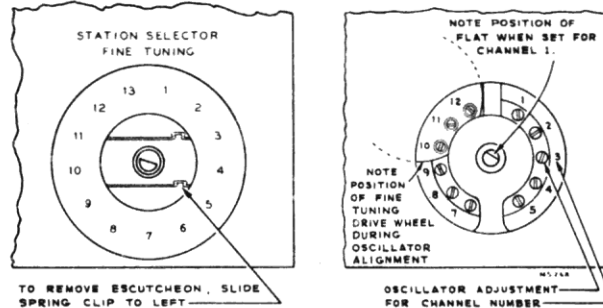

Figure 7—R-F Oscillator Adjustments
possible without causing crowding of the right of the picture. This position provides maximum high voltage to the kinescope second anode. Adjust the width control (L196 on rear chassis) until the picture just fills the mask horizontally ( $8\frac{1}{2}$  inches). Adjust the horizontal linearity control L201 (see Figure 7) until the test pattern is symmetrical left to right. A slight readjustment of the horizontal drive control may be necessary when the linearity control is used. Adjust horizontal centering to align the picture with the mask.
**CHECK OF R-F OSCILLATOR ADJUSTMENTS**—With a crystal calibrated test oscillator or heterodyne frequency meter, check to see if the receiver r-f oscillator is adjusted to the proper frequency on all channels. If adjustments are required, these should be made by the method outlined in the alignment procedure on page 8. The adjustments for channels 1 through 5 and 7 through 12 are available from the front of the cabinet by removing the station selector escutcheon as shown in Figure 7. Adjustments for channels 6 and 13 are under the chassis.